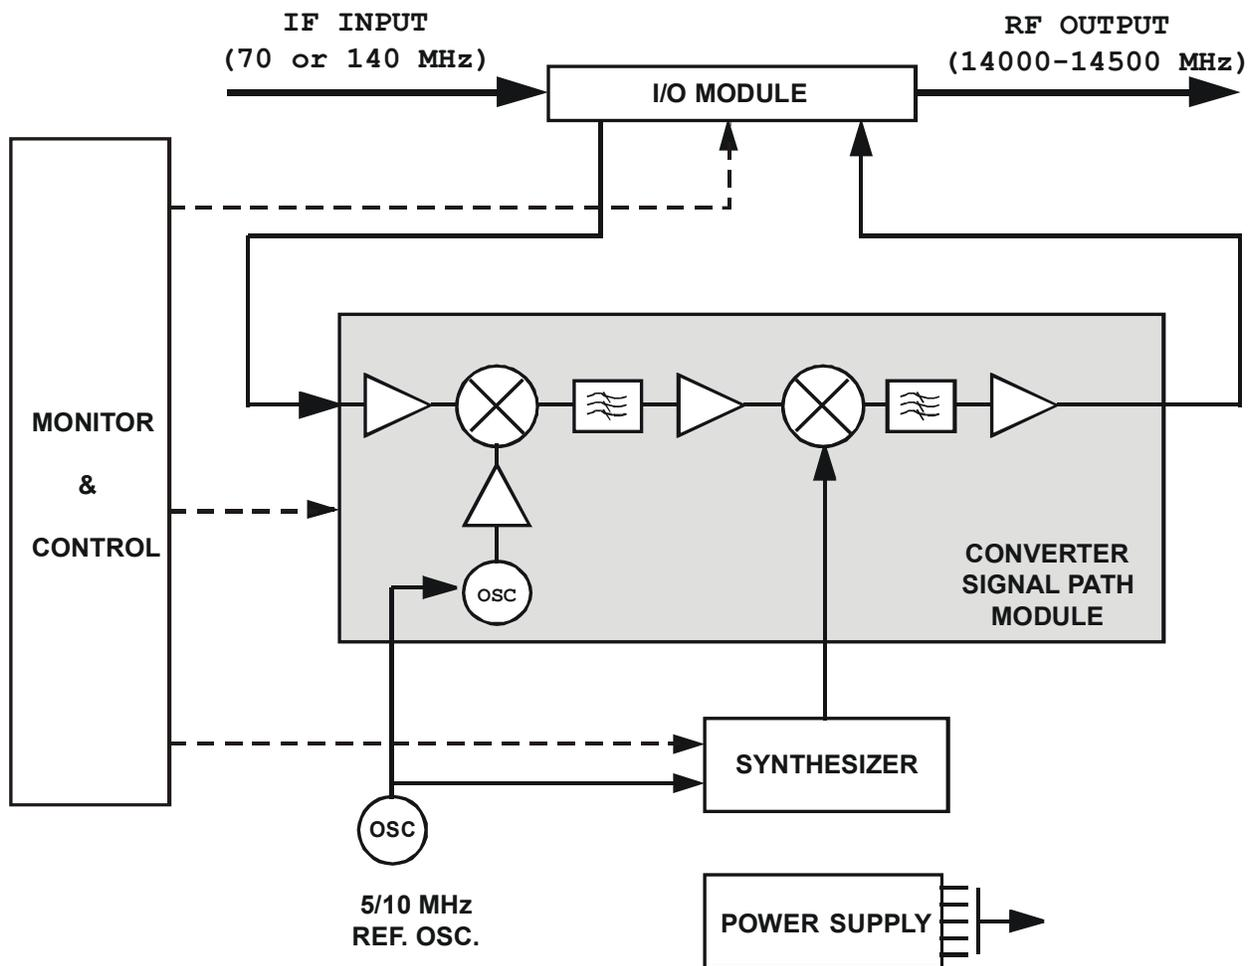

Figure 34. Typical Converter Functional Block Diagram (Model UT-4514 shown)
**Figure 34** is a typical functional block diagram of the converter.